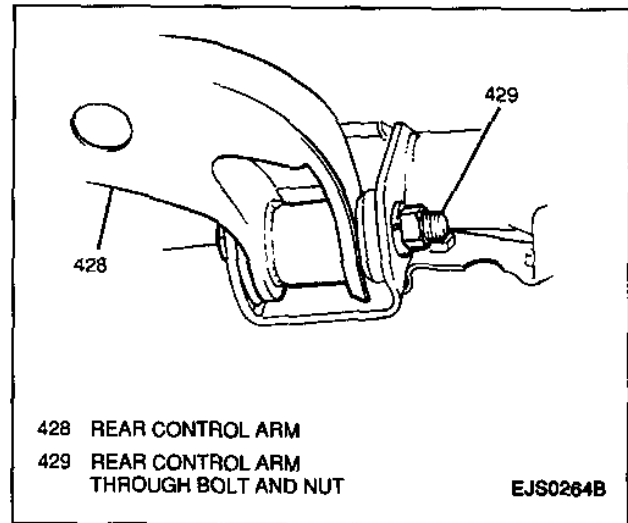

Figure 26—Rear Control Arm Nut and Bolt
11. Loosen both rear control arm through bolts and nuts (Figure 26).